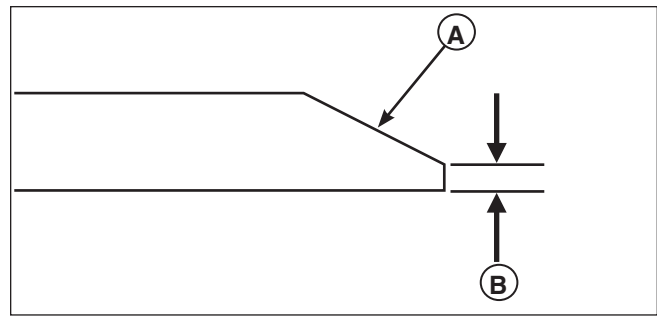

Figure 26. Sharpening the Mower Blade
- B.) The air lifts are excessively eroded (B & C, Figure 26) and the notch (C) is .25" (6,35 mm) deep or greater.
3. Keep the original bevel (A, Figure 26) when grinding. Do NOT change the mower blade bevel.
4. The mower blade should have a maximum 1/64" (0,40 mm) cutting edge (B) or less.